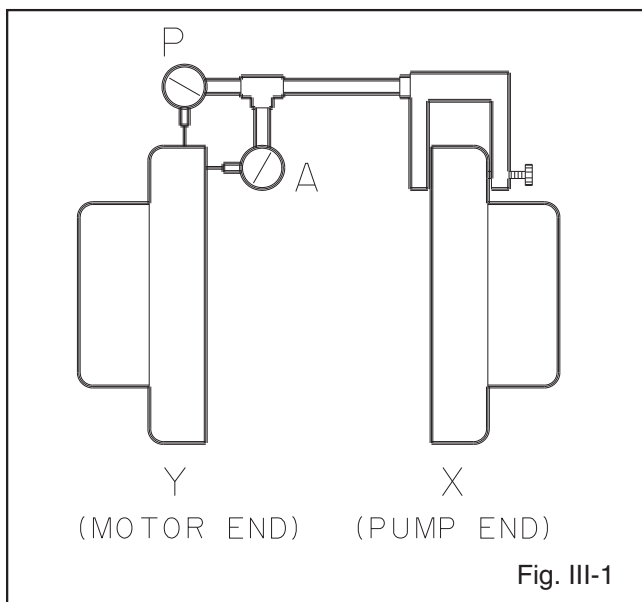

Fig. III-1
1. Mount two dial indicators on one of the coupling halves (X) so they contact the other coupling half (Y) (Fig. III-1).
1. Zero indicator P at top dead center of coupling (12 o'clock) half Y (Fig. III-1).